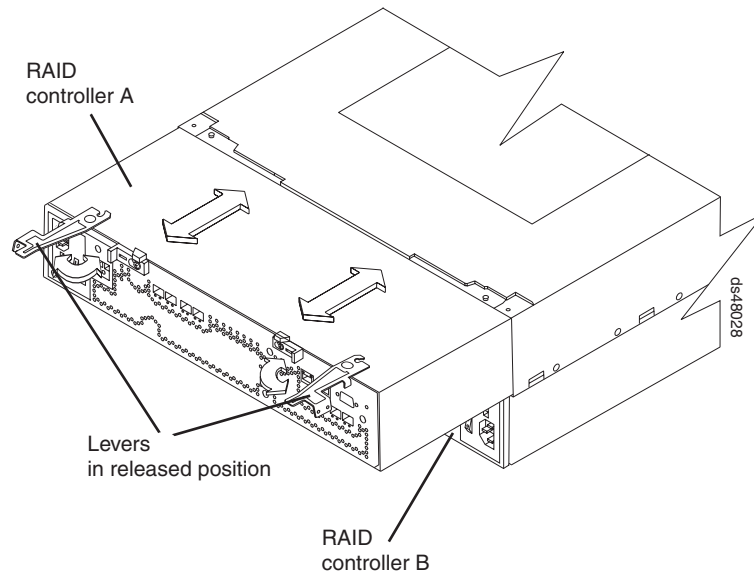

Figure 23. Replacing the controllers
3. Replace the controllers at the back of the DS4800. Figure 23 on page 45 shows the location of the controllers and the controller levers. Ensure that controller A is returned to the upper slot and that controller B is returned to the lower slot.